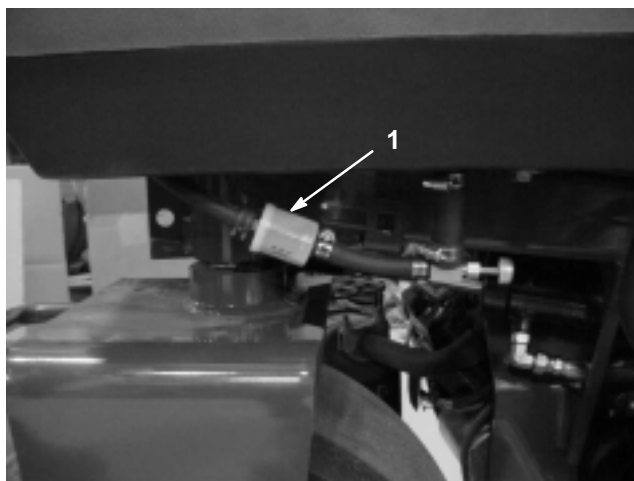

Figure 49
An in-line filter is incorporated into the fuel line between the fuel tank and carburetor (Fig. 49). Replace the filter every 800 hours or sooner if the fuel flow is restricted. Be sure the arrow on the filter is pointing away from the fuel tank.
1. Close the fuel shut off valve, loosen the hose clamp (Fig. 49) on the carburetor side of filter and remove the fuel line from the filter.
2. Place a drain pan under the filter, loosen the remaining hose clamp, and remove the filter (Fig. 49).